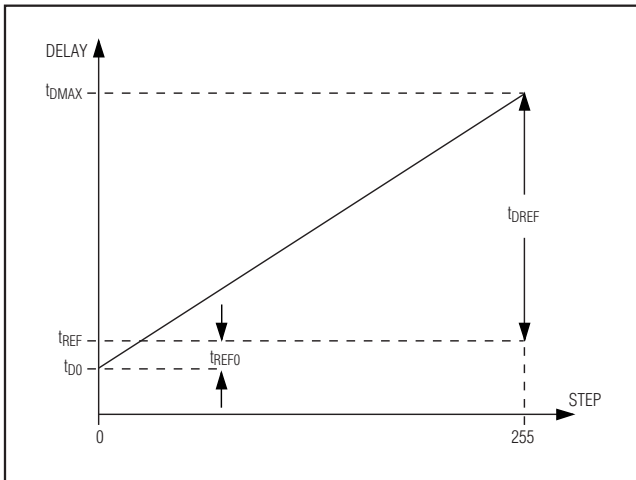

Figure 8. Delay Parameters
**Note 6:** This is the relative delay between REF and OUT. The device is designed such that when programmed to zero delay the OUT output always appears before the REF output. This parameter is numerically equal to  $t_{D0} - t_{REF}$  (see Figure 8).
**Note 9:** This is the actual measured delay with respect to the REF output. This parameter more closely reflects the programmed delay value than the absolute delay parameter (see Figure 8). Typical delay shift due to aging is within  $\pm 0.85\%$ . Aging stressing includes level 1 moisture reflow preconditioning (24hr  $+125^\circ C$  bake, 168hr  $+85^\circ C/85\%RH$  moisture soak, and three solder reflow passes  $+260^\circ C +0^\circ C/-5^\circ C$  peak) followed by 1000hr (max)  $V_{CC}$  biased  $+125^\circ C$  OP/L, 1000hr unbiased  $+150^\circ C$  bake, and 1000 temperature cycles at  $-55^\circ C$  to  $+125^\circ C$ .
the DS1123L that can be used to compensate for the step-zero delay. The reference output allows the DS1123L to be used to generate small differential delays that cannot be generated when the OUT delay is referenced to the input. The step-zero OUT delay is always approximately 1ns faster than the REF delay (see Figure 8). This allows the DS1123L to generate a nondelayed output with respect to the reference output. In addition, the reference output driver is sized similarly to the OUT output driver, both outputs act similarly over temperature, and they are both triggered at the same time regardless of the exact input threshold. These features make the output delay with respect to the reference act more ideally because both of these outputs are skewed approximately the same amount due to these phenomena.